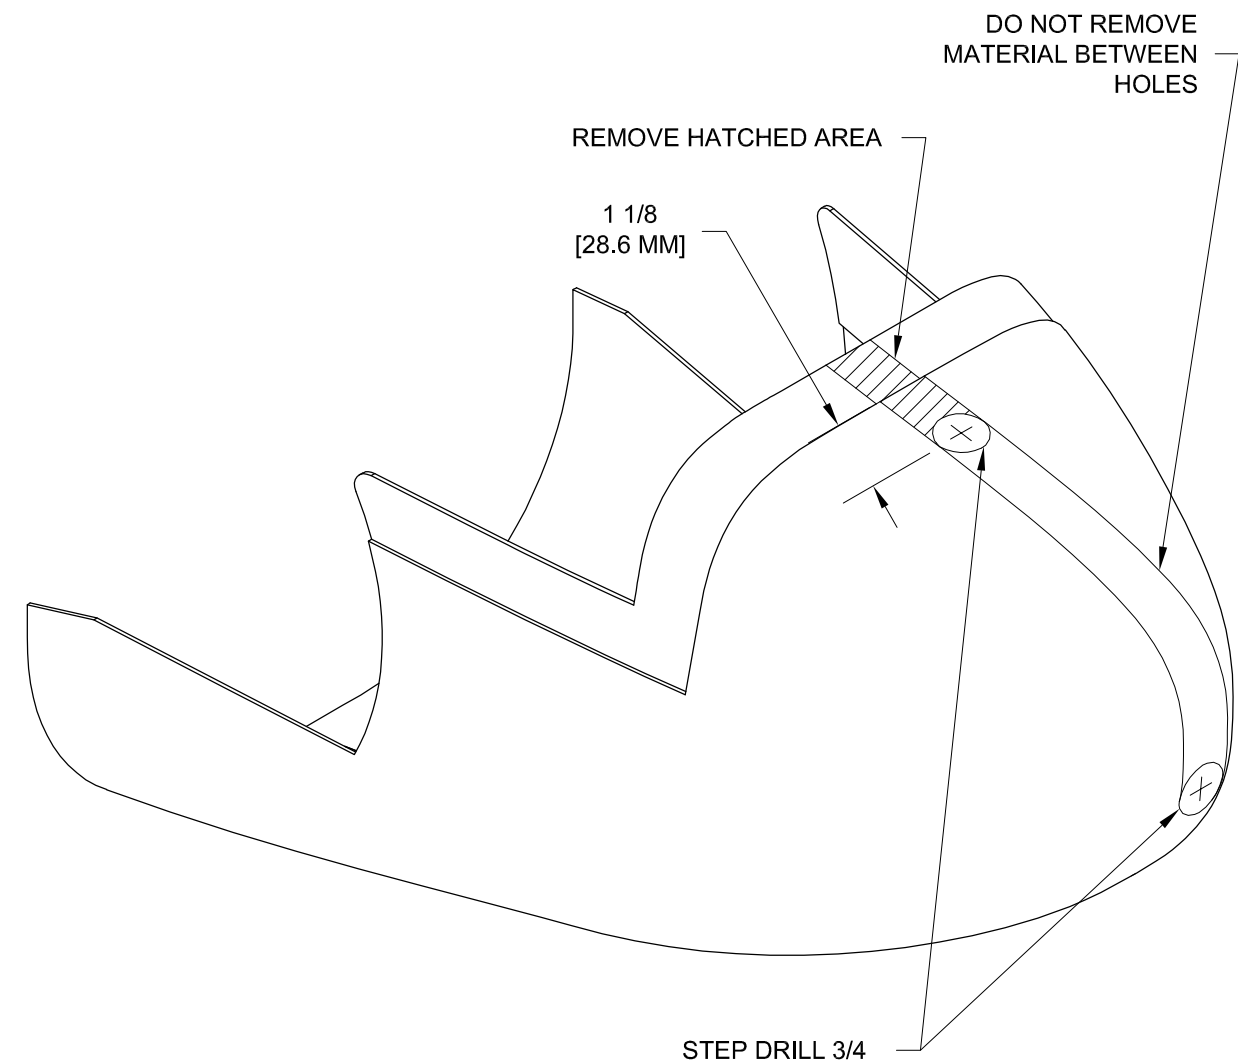

FIGURE 3:
Step 4: Drill two holes with a step drill bit in the F-1294B-1 as shown in Figure 3.
Step 5: Trim the excess material from the edges of the F-01294B-1 and as shown in Figure 3. Cut close to the scribe lines, then use a sanding block to finish the edge to the scribe line.